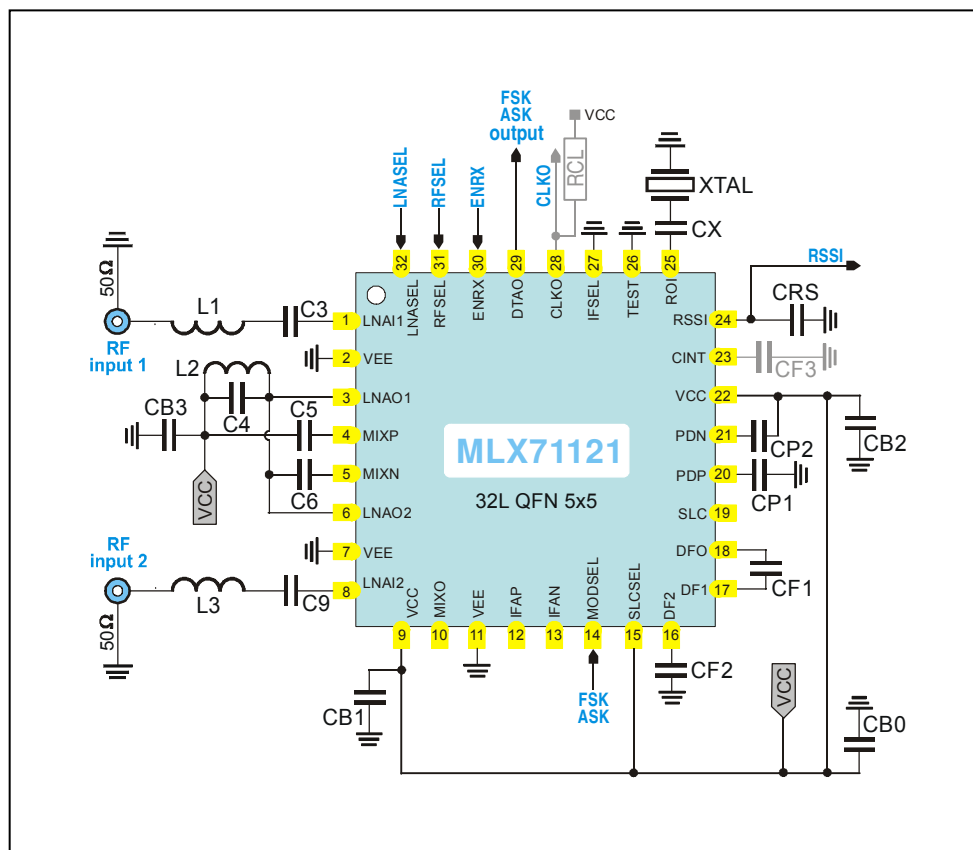

Fig. 11: Antenna diversity circuit schematic, peak detectors activated
typical values at $T_A = 23\text{ }^\circ\text{C}$ and $V_{CC} = 3\text{ V}$, all parameters based on test circuits as shown Fig. 11
5.1.1 Test Circuit Component List of Figures 11